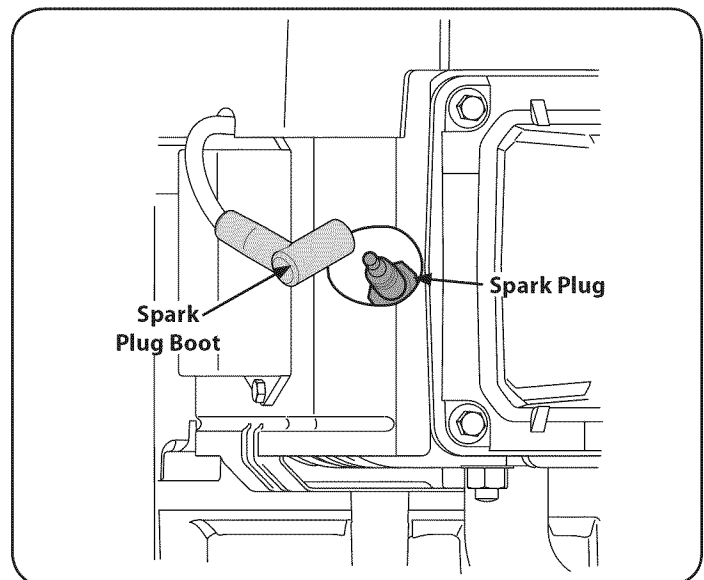

Figure 26
- Remove the spark plug boot and use a spark plug wrench to remove the plug, Figure 26.